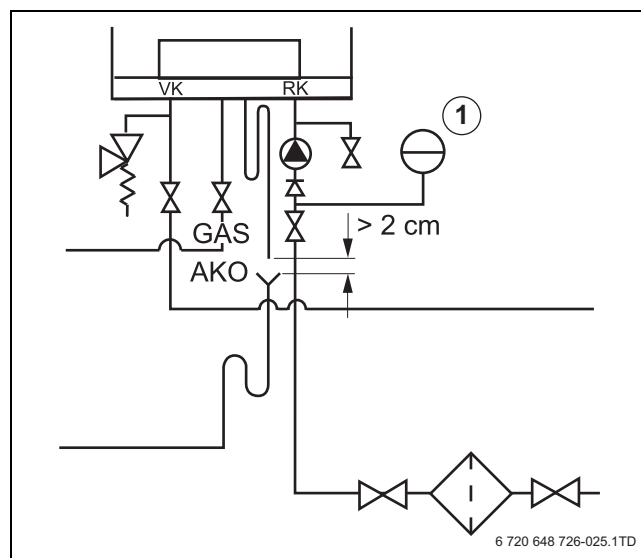

Fig. 25 Connecting the expansion vessel in a single-boiler system
- Connect the expansion tank to the boiler return (CHR). If a non-return valve is available: connect the expansion vessel to the CH-side of the non-return valve in the return circuit (→ fig. 25, [1]).